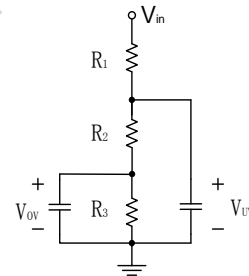

Figure 1. UV/OV resistor divider from the input line
The JWH3515 incorporates individual line undervoltage (UV) and overvoltage (OV) shutdown circuits. When the UV is below 2.5 V or if the OV voltage is above 2.5 V. It immediately stops switching pulses and internally pulls down the COMP. The UV/OV circuits can be biased using an external resistor divider from the input line as shown in Figure 1.